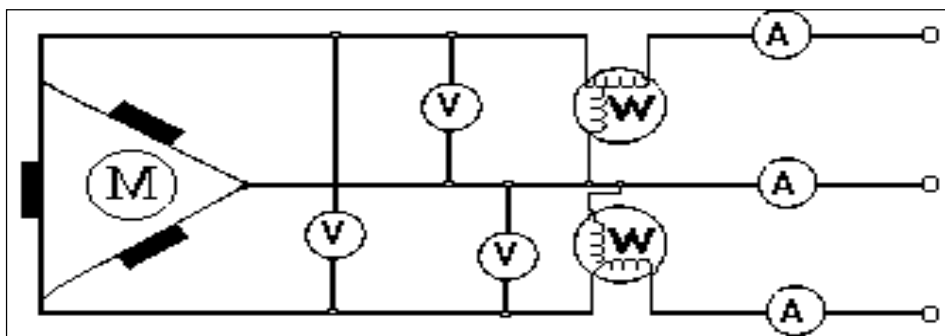

Figure 3.4: phase induction motor  $\Delta$ -connected
1. Using FH90, connect the circuit as in Figure 3.4.